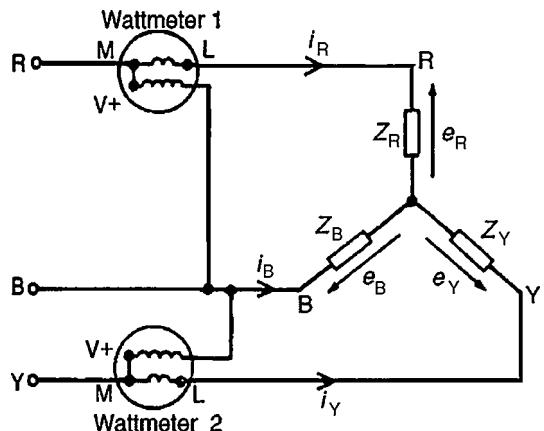

Figure 20.15
- (a) A connection diagram for the two-wattmeter method of a power measurement is shown in Fig. 20.15 for a star-connected load.
However,  $(e_R - e_B)$  is the p.d. across wattmeter 1 in Fig. 20.15 and  $(e_Y - e_B)$  is the p.d. across